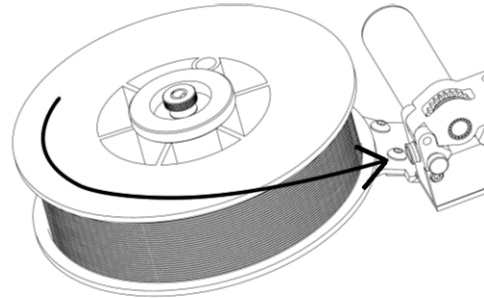

FIGURE 30 – WIRE 1 INSTALLATION
3. Take the end of the wire from the spool and feed it through the inlet guide on the wire feed unit until the rollers catch and pull (see Figure 30 – Inlet Guide).